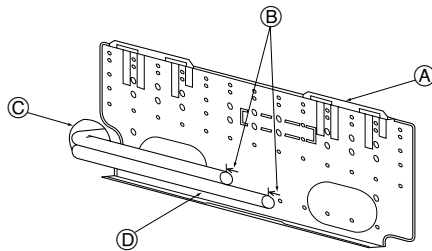

Fig. 3-5
① Fasten a thread to the hole.
② The level can be easily obtained by hanging a weight from the string and aligning the string with the mark.
3.3. When embedding pipes into the wall (Fig. 3-5)